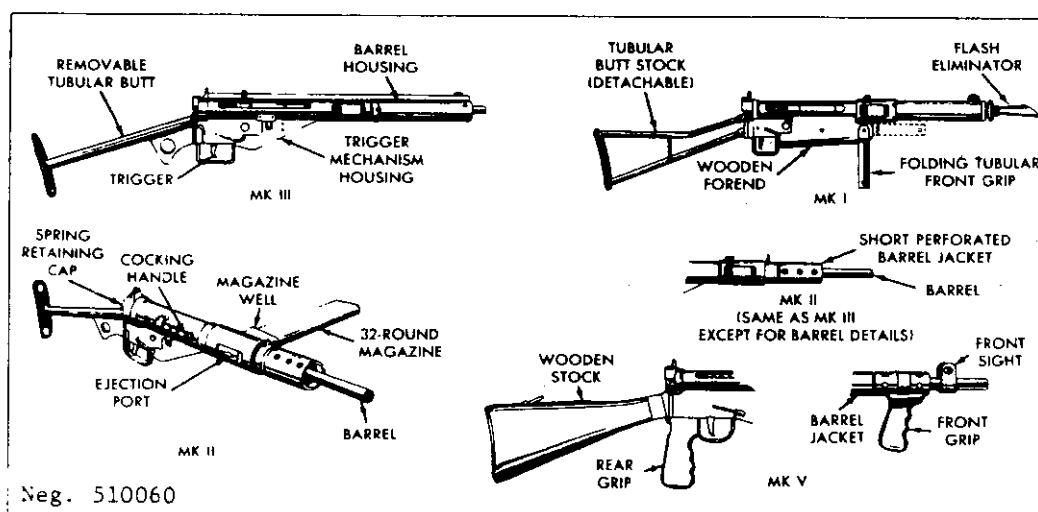
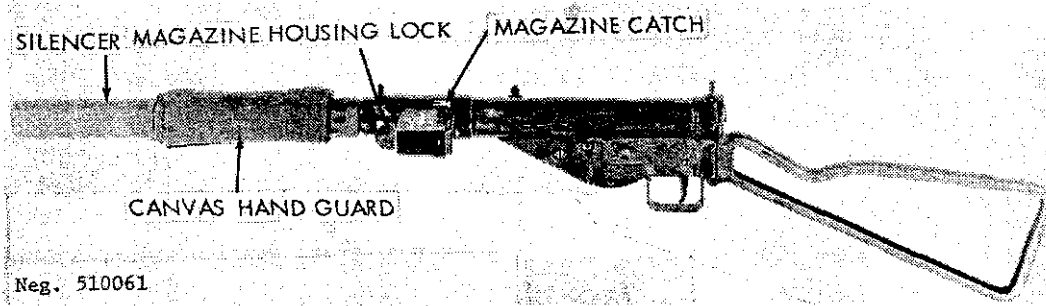

Figure 61. Sten Mark 1, 2, 3 and 5 submachineguns.
Figure 62. Sten Mark 2S silenced submachinegun.
quantities. This model, the first simple, cheap submachinegun, was constructed mainly from steel tubing and stampings. Several different models have been produced (fig 61), but all are operated and function in the same manner. The Mark 2 and Mark 5 versions are the most common, and even these will be found with butts and barrels from other models. A silenced version, the Mark 2S (fig 62), was also used.
- c. Insert the magazine into the magazine housing until the magazine catch (fig 62) snaps into place. Pull the operating handle
f. Remove the magazine by pressing the magazine catch (fig 62) and withdrawing the magazine from its housing. For storage, pull out the magazine housing lock on the front of the magazine housing (fig 62) and rotate the housing to a vertical position.